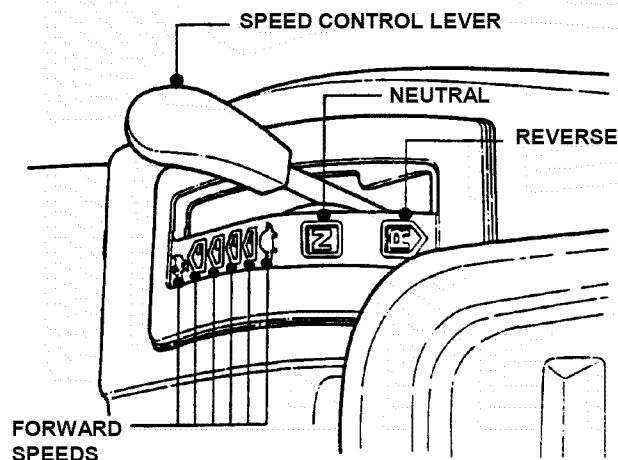

FIGURE 4.21
5. Move the speed control lever until it is in direct relation to the neutral "N" position on quadrant. See Figure 4.21.